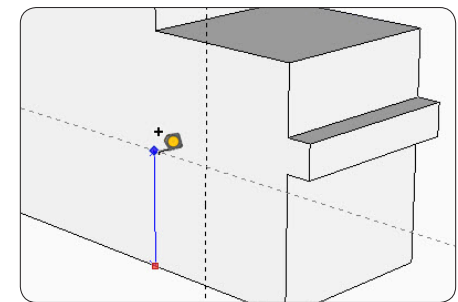

Figure 13. Placing intersecting Parallel Guide Lines to locate the center of a hole.
Step 10 This block has a $1\frac{1}{4}$ -in.-diameter hole for the shaft of the tail vise. To draw the hole, begin by using the Tape Measure Tool to place two Parallel Guide Lines to locate the center. Place one guide $1\frac{3}{4}$ in. up from the bottom edge of the block. Place the other $1\frac{1}{2}$ in. from the right edge of the block. Type those values ($1\frac{3}{4}$ and $1\frac{1}{2}$) the Measurements Box, as before (Figure 13).